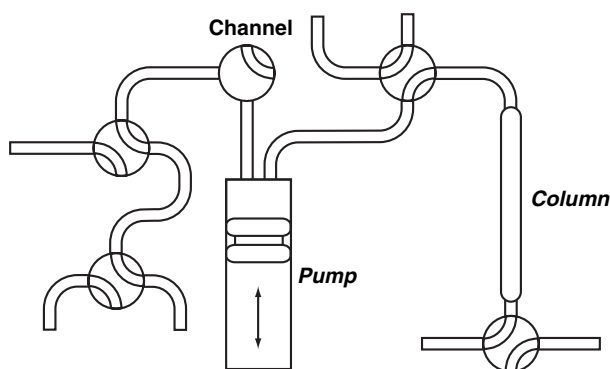

Figure B-2 Inactive channel
- If the channel is active, the Channel valve allows the fluid to be pumped. If the channel is inactive, the valve prevents fluid from being pumped (Figure B-2).